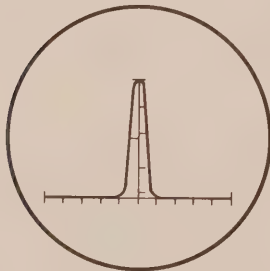

Figure 16
- ( ) Turn the slug of coil L3 until the correct pip is centered on the screen base line. If the top of the pip is off the screen at the top of the CRT, reduce the PIP GAIN control setting until the complete pip pattern is visible as shown in Figure 16.